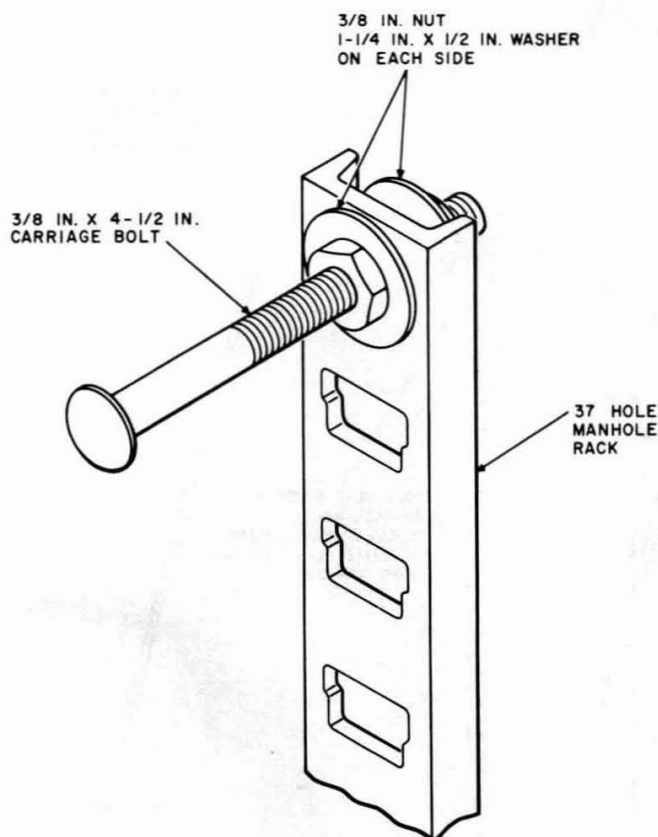

Fig. 12—♦Hardware Placed on Manhole Rack♦
5.22 ♦ Install the carriage bolts, nuts, and washers in one end hole of each 37-hole manhole rack as shown in Fig. 12.♦